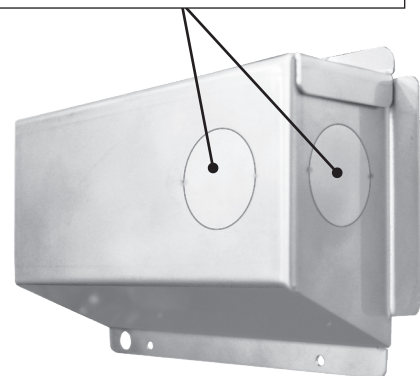

Fig. 29-2 Junction box knockouts
2. Remove the junction box located on the rear of the unit. Select and remove a knockout from the junction box that will best suit your electrical setup. Route the wiring through the selected knockout opening. See Fig. 29-2.